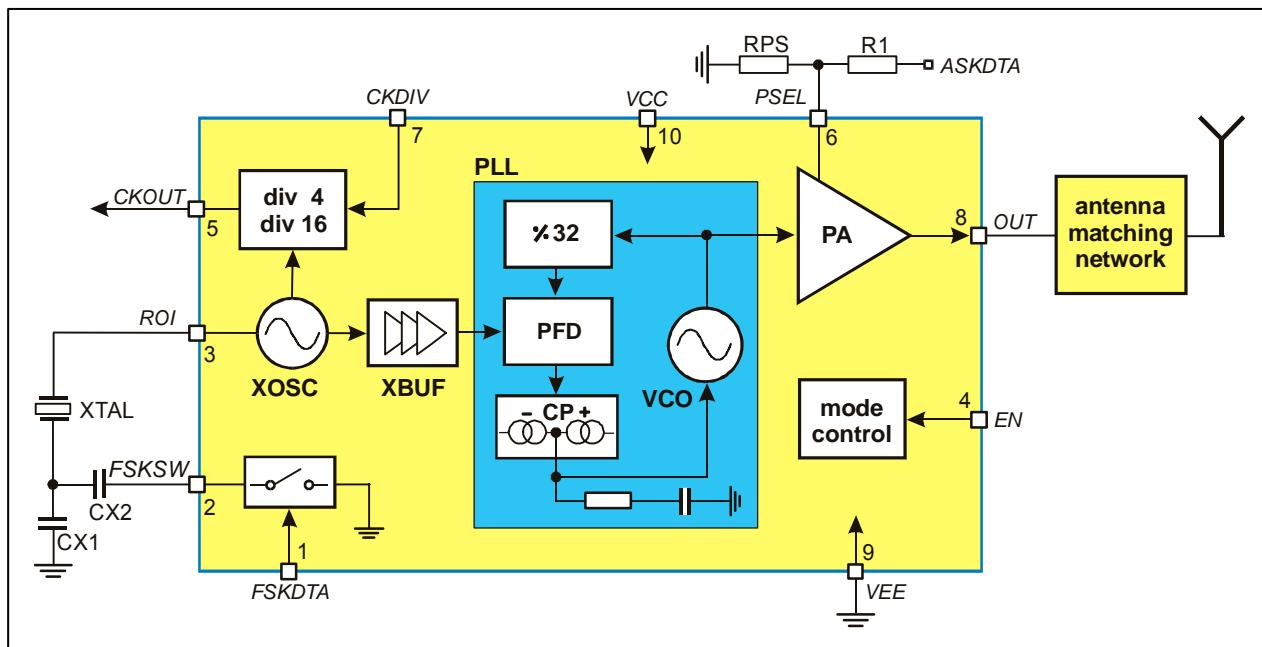

Fig. 1: Block diagram with external components
As depicted in Fig.1, the TH72016 transmitter consists of a fully integrated voltage-controlled oscillator (VCO), a divide-by-32 divider (div32), a phase-frequency detector (PFD) and a charge pump (CP). An internal loop filter determines the dynamic behavior of the PLL and suppresses reference spurious signals. A Colpitts crystal oscillator (XOSC) is used as the reference oscillator of a phase-locked loop (PLL) synthesizer. The VCO's output signal feeds the power amplifier (PA). The RF signal power P_{out} can be adjusted in four steps from $P_{out} = -12$ dBm to $+10$ dBm, either by changing the value of resistor RPS or by varying the voltage V_{PS} at pin PSEL. The open-collector output (OUT) can be used either to directly drive a loop antenna or to be matched to a 50 Ohm load. Bandgap biasing ensures stable operation of the IC at a power supply range of 1.95 V to 5.5 V.